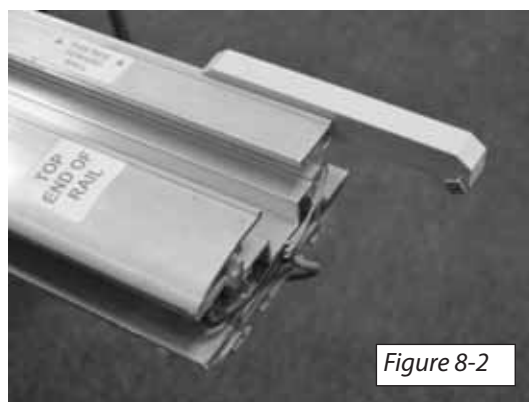

Figure 8-2
2. Slide the lower limit cam square nuts into the limit cam fastener channel and onto rail.[Figure 8-2]